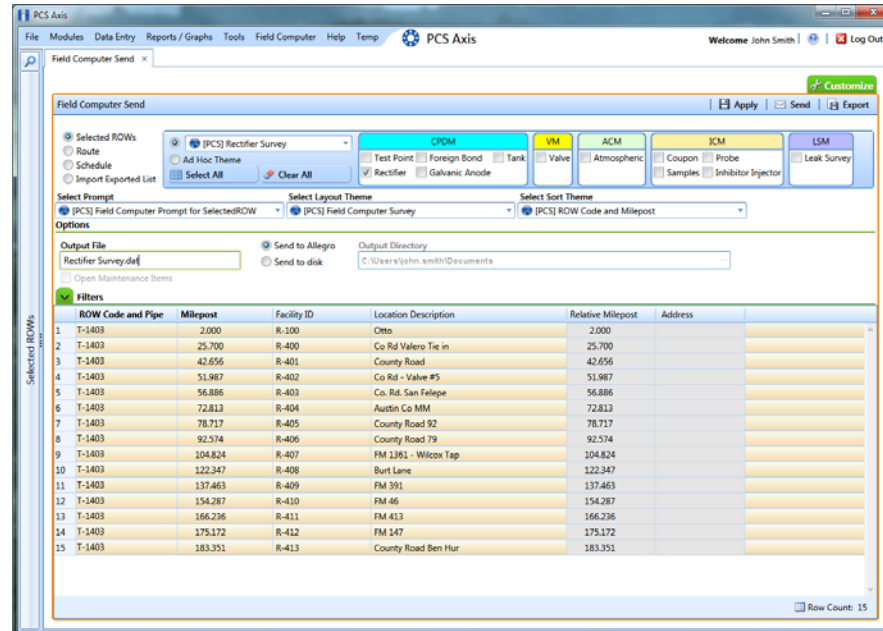

Figure 12-23. Field Computer Send Based on Selected ROWs
- b Choose one or more facility types using one of the following options (Figure 12-23):